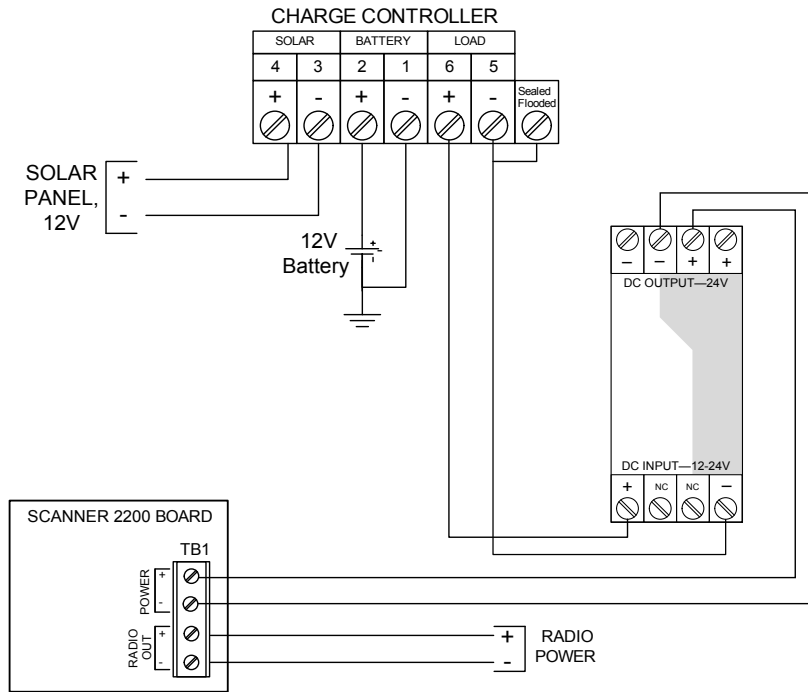
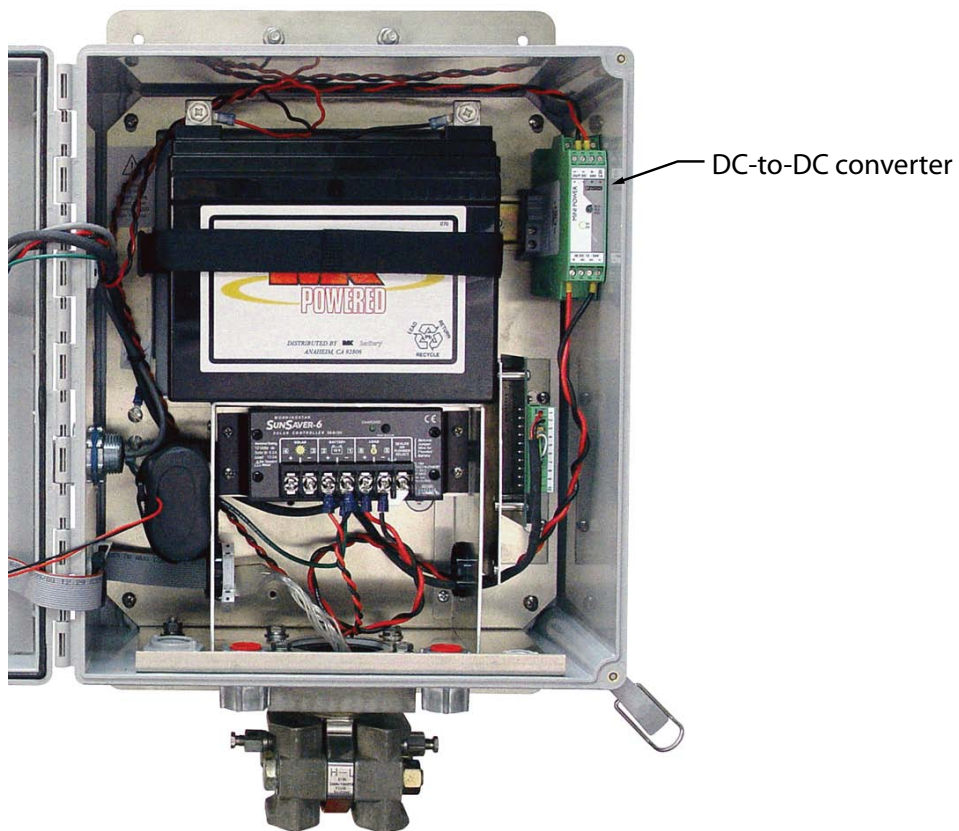

Figure 3.7—DC-to-DC converter wiring
Figure 3.8—DC-to-DC converter mount
4. Connect wiring for the optional DC-to-DC converter, if appropriate. See Figure 3.7 and Figure 3.8, page 55.
A DC-to-DC power converter (Figure 3.8, page 55) is optionally available to convert 12V solar power to the 24V necessary to power an analog output loop or an analog input loop. As shown in Figure 3.7, page 55, the input connections are wired to the terminals 5 and 6 of the solar charge controller and the output connections are wired to the power terminals in TB1 on the Scanner 2200 circuit board.
When wired as shown in Figure 3.7, page 55, the DC-to-DC converter provides 24V at the radio output terminals and at the analog input power terminals.
When the Scanner 2200 is solar-powered, and 24-volt power is needed to power an analog input loop, a DC-to-DC power supply option is recommended to convert 12V solar power to 24 VDC. See Figure 3.7, page 55, for wiring instructions.